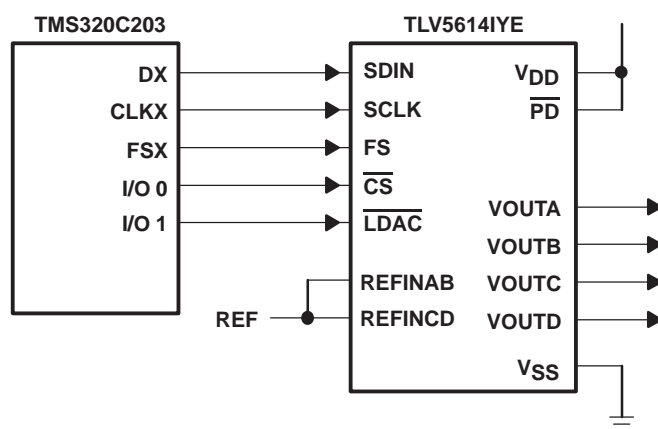

Figure 18. TLV5614IYE Interfaced With TMS320C203
Figure 18 shows an example of how to connect the TLV5614IYE to a TMS320C203 DSP. The serial port is configured in burst mode, with FSX generated by the TMS320C203 to provide the frame sync (FS) input to the TLV5614IYE. Data is transmitted on the DX line, with the serial clock input on the CLKX line. The general-purpose input/output port bits IO0 and IO1 are used to generate the chip select ($\overline{\text{CS}}$) and DAC latch update ($\overline{\text{LDAC}}$) inputs to the TLV5614IYE. The active low power down ($\overline{\text{PD}}$) is pulled high all the time to ensure the DACs are enabled.